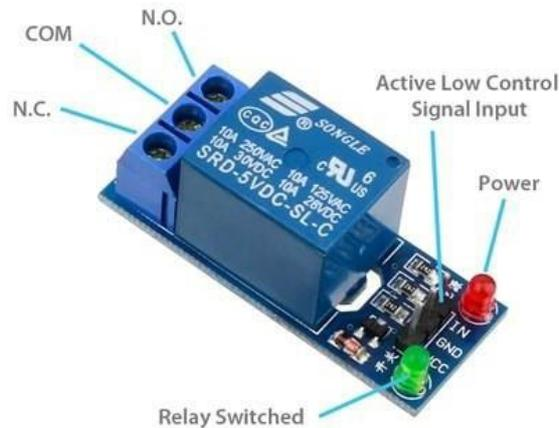

Figure 4. HL-52S Relay Module
We will use the HL-52S one channel relay module. The high voltage output connector has 3 pins, the middle one is the common pin and as we can see from the markings one of the two other pins is for normally open connection and the other one for normally closed connection. The relay module is shown in figure 4. Its output contacts are normally closed. They become open when a high logic is applied at input (IN) pin.